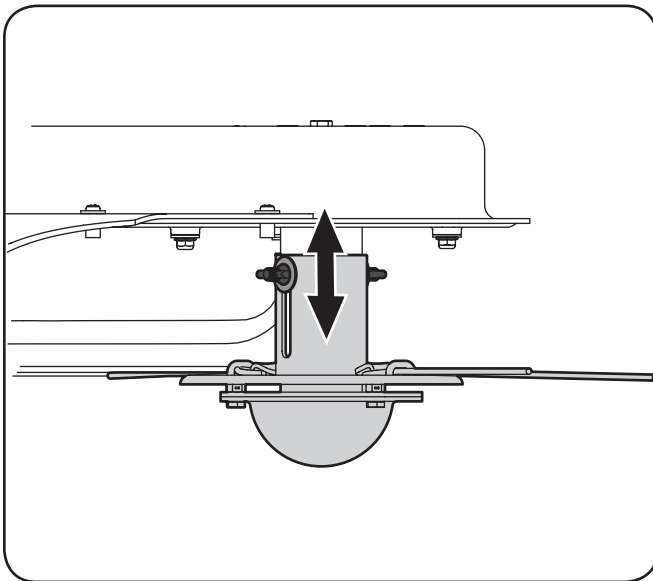

Figure 5-1
- Slide the spindle upward or downward to the desired position before retightening the wing nuts. See Figure 5-1.